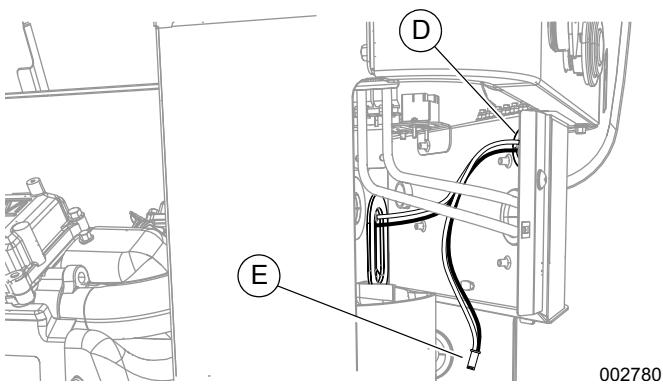

Figure 8. Lead Wires to Customer Connection (11-22kW)
- See Figure 8. Pass the lead wires through the customer connection panel grommet (D). If the empty Y-harness socket (E) will not be connected to a battery heater, coil the wires and secure with a plastic wire tie. Secure all wires with plastic wire ties at least 0.5 in. (1 cm) away from fuel hoses.